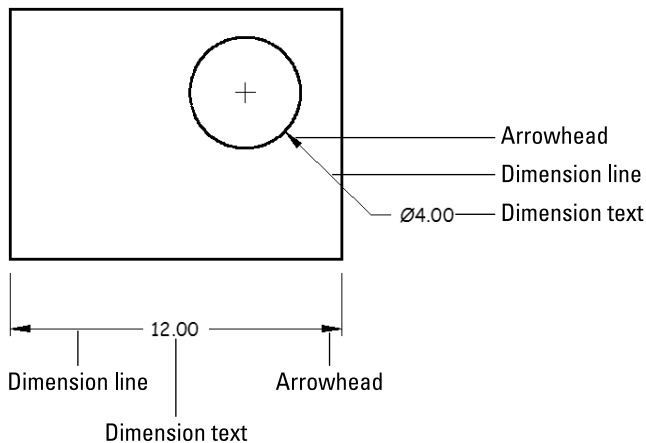

FIGURE 14-2:
In this section, I discuss how to set the factors that control the format and appearance of dimensions, but I start with a brief anatomy lesson. AutoCAD uses the names shown in Figure 14-2, and described in the following list, to refer to the parts of each dimension:
- » **Arrowheads:** Appear at the end or ends of the dimension lines and emphasize the extent of the dimensioned length. AutoCAD’s default arrowhead style is the closed, filled type shown in Figure 14-2, but you can choose other symbols, such as dots or tick marks, to indicate the ends of the dimension lines. Don’t get ticked off about it, but AutoCAD calls the line ending an *arrowhead* even when, as in the case of a tick mark, it doesn’t look like an arrow.
- » **Extension lines:** Extend outward from the definition points (also known as defpoints) that you select to the dimension lines, usually by snapping to points on an object. By drafting convention, a small gap usually exists between the defpoint and the beginning of the extension line. Also by convention, extension lines usually extend just past the dimension lines; refer to Figure 14-2 for examples. AutoCAD makes dimensions look tidier by assigning fixed gap sizes and projection lengths for the extension lines, and if you need to dimension to circles or center lines, you can assign dash-dot linetypes to either or both extension lines.